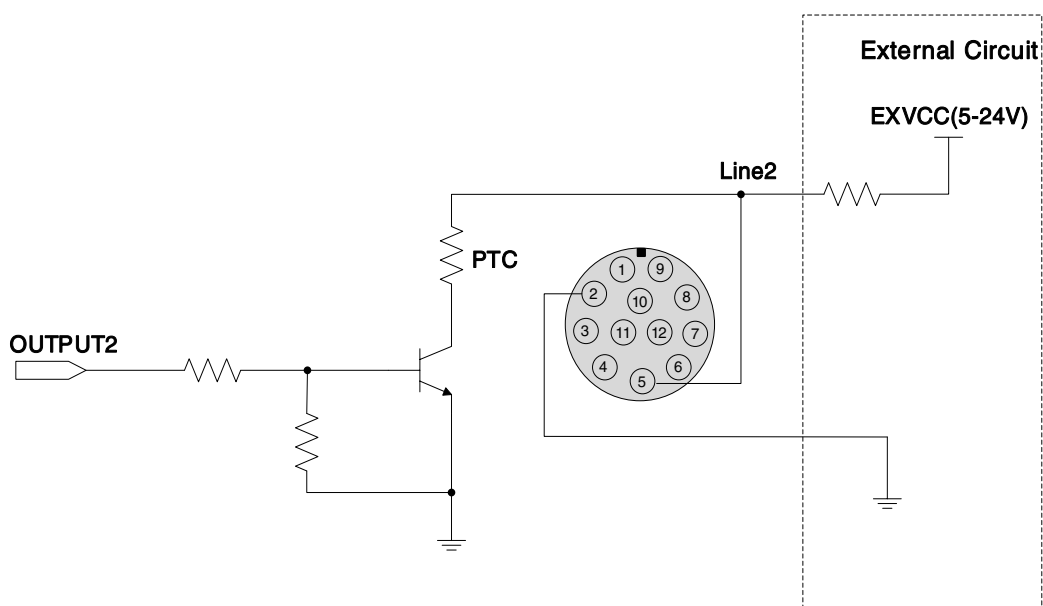

Figure 7-13 Internal equivalent circuit of camera when Line2 is configured as output
- When Line2/3 is configured as output, the internal equivalent circuit of camera is shown in Figure 7-13, taking Line2 as an example.